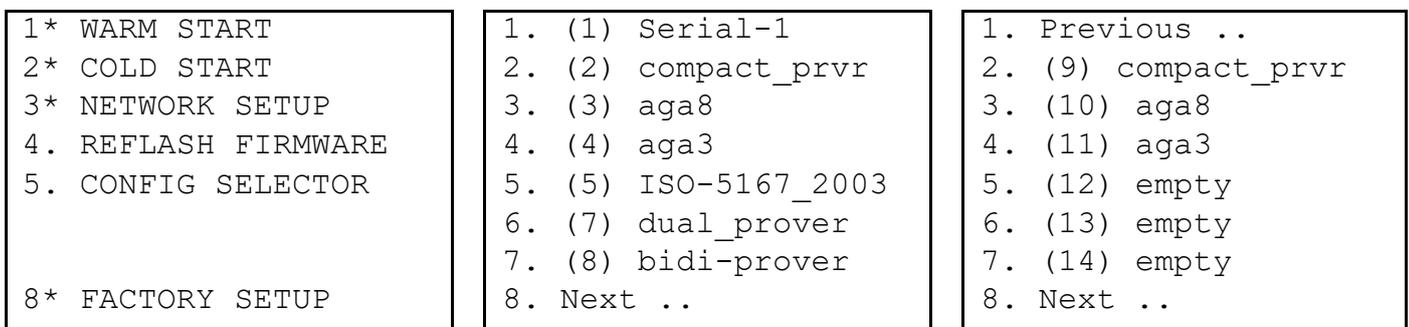

Figure 5-19. Selecting a Configuration Menu
1. Access the Cold Start menu and select **Config Selector**. The S600+ displays a series of menus listing all configurations currently loaded (shown in *Figure 5-19*).